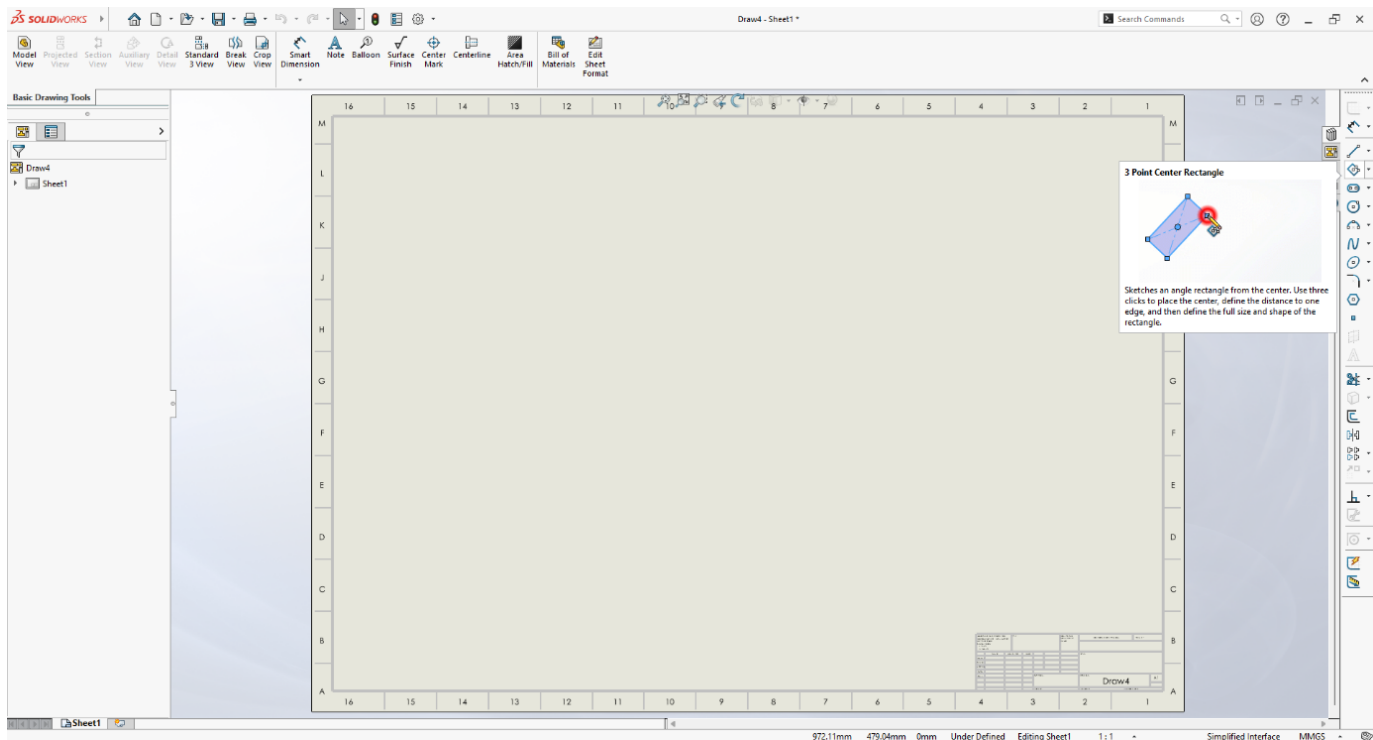

Figure 2.12: Location of Rectangle Tool
3. Rectangle tool: It helps to draw rectangles. The Rectangle Tool in SolidWorks helps users draw rectangular shapes in the Sketch environment efficiently. It is a fundamental tool used to create the base profiles of many mechanical parts. SolidWorks offers four types of rectangle drawing techniques, allowing flexibility based on design requirements (Figure 2.12):